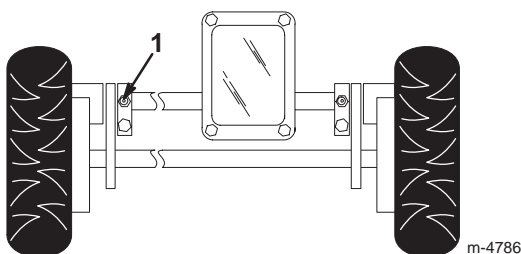

Figure 25
1. Wipe the grease fittings with a clean rag (Fig. 25).